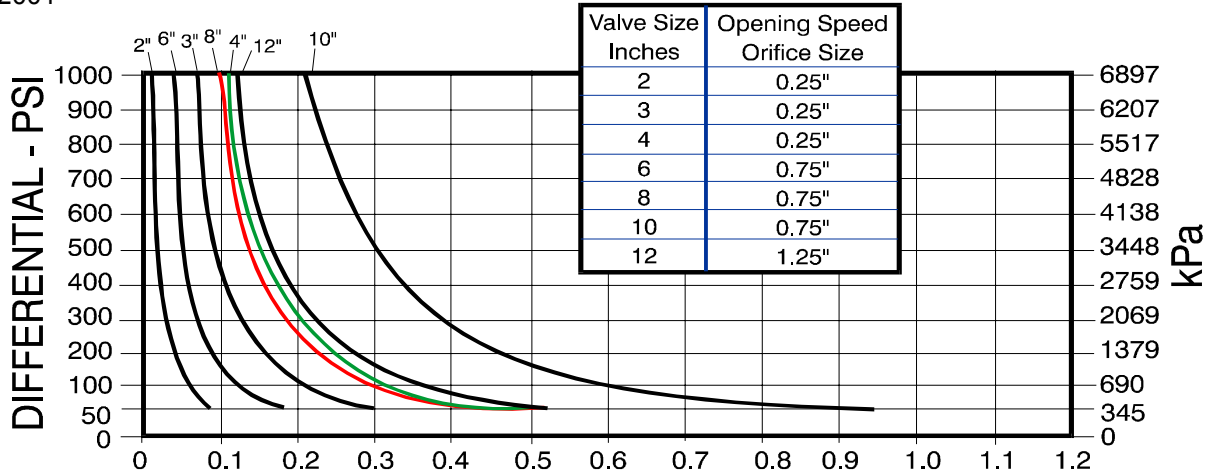

Figure 4 Typical Valve Opening Time
The opening speed of the valve is virtually unrestricted. Closing speed is standard at three (3) seconds from a full-open position, based on gas pressure being 25 psi (1724 kPa) above line pressure. The fastest closure is limited to 0.5 seconds at 1500 psi (10,342 kPa) differential pressure to protect the piston and seat ring. For closure speeds longer than three (3) seconds, we can change the orifice size to match the customers requirements. It should be noted that the calculated closing speeds are a function of the viscosity of the oil in the reservoir. See Oil Specifications for recommended oil. Typical valve opening times are illustrated in Figure 4.